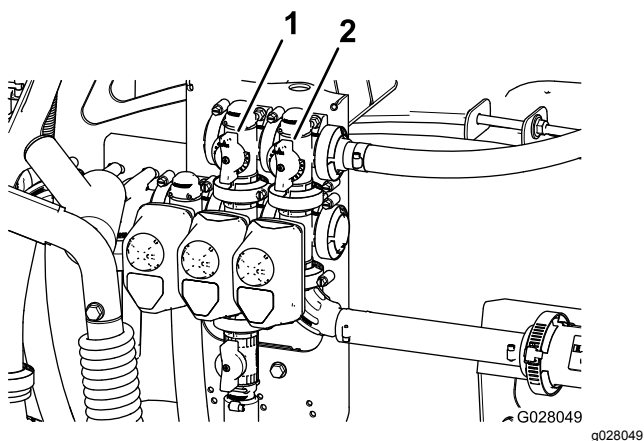

Figure 20
- Adjust the agitation-bypass valve (Figure 20) on the backside of the agitation valve until the
9. Adjust the master-section-bypass handle to control the amount of agitation occurring in the tank (Figure 20).